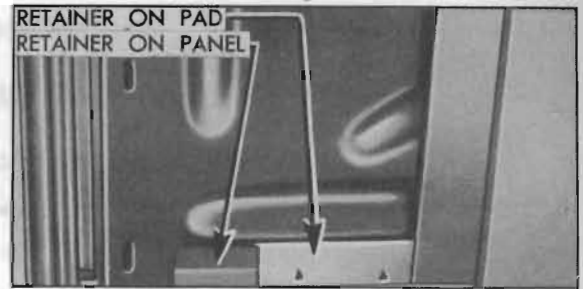

Figure 13-46—Retainers at Lower Edge of Door Trim Pad
4. Be sure to hook the metal retainer on lower edge of trim over the retainer on door inner panel. See figure 13-46.